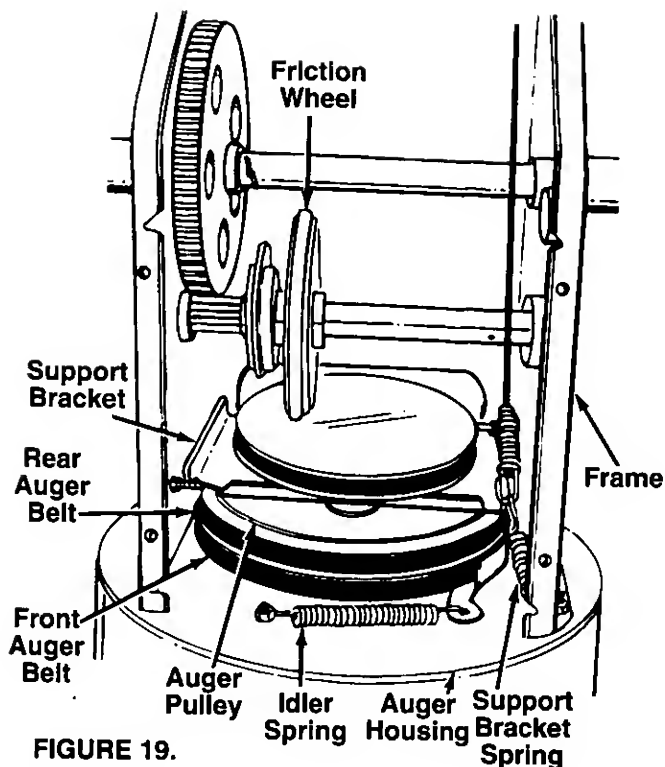

FIGURE 19.
6. Unhook the idler spring from the hex bolt on the auger housing. See figure 19.
8. Lift the front auger belt from the auger pulley, and slip belt between the support bracket and the auger pulley. See figure 19. Repeat this step for rear auger belt (except Model 616E).